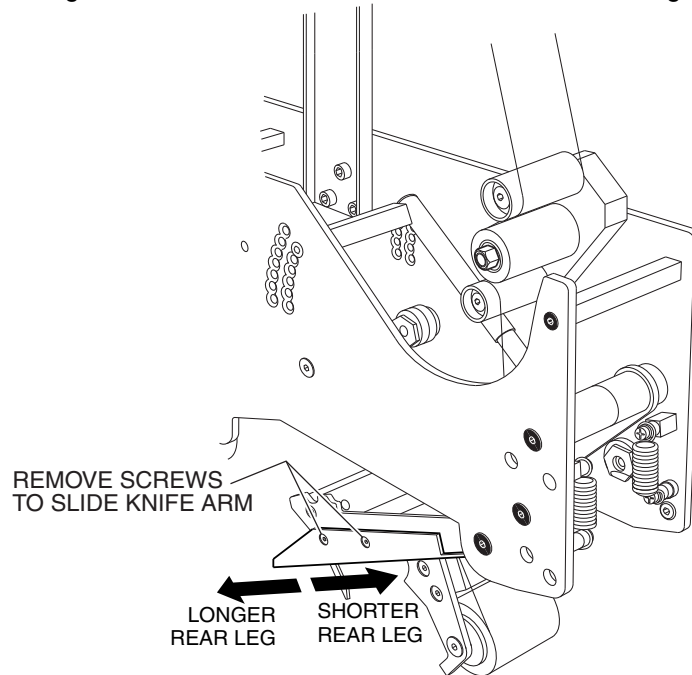

Figure 11 Rear Leg Length Adjustment
4.8 Rear Leg Length Adjustment – Figure 11
To adjust the length of the rear leg, remove the four (4) knife arm screws and adjust length by moving the knife arm forward or backward, as shown in figure 11.